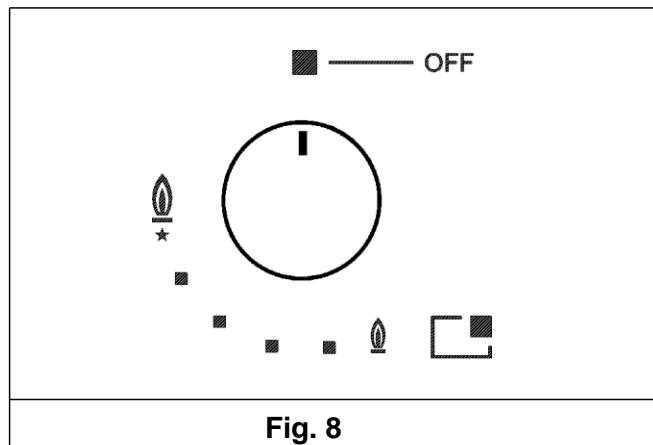

Fig. 8
1. Switch on the burner and turn the relative knob to the "Reduced rate" position (small flame, fig. 8 page 12).
The knobs of the burners are equipped with a safety cut-off device. They must be turned in a counter-clockwise direction until they reach the full-on position (large flame icon, Fig. 8) and come to a stop. Now push down on the knob. The burner should ignite in 2 or 3 seconds. Keep the knob depressed as you turn it toward the reduced rate position (small flame icon, Fig. 8) to adjust the flame. Should the flame accidentally go out, turn the burner control knob off and wait at least 5 minutes to light it again.
- When the pan comes to a boil, set the knob to a reduced rate position (small flame icon, Fig. 8).